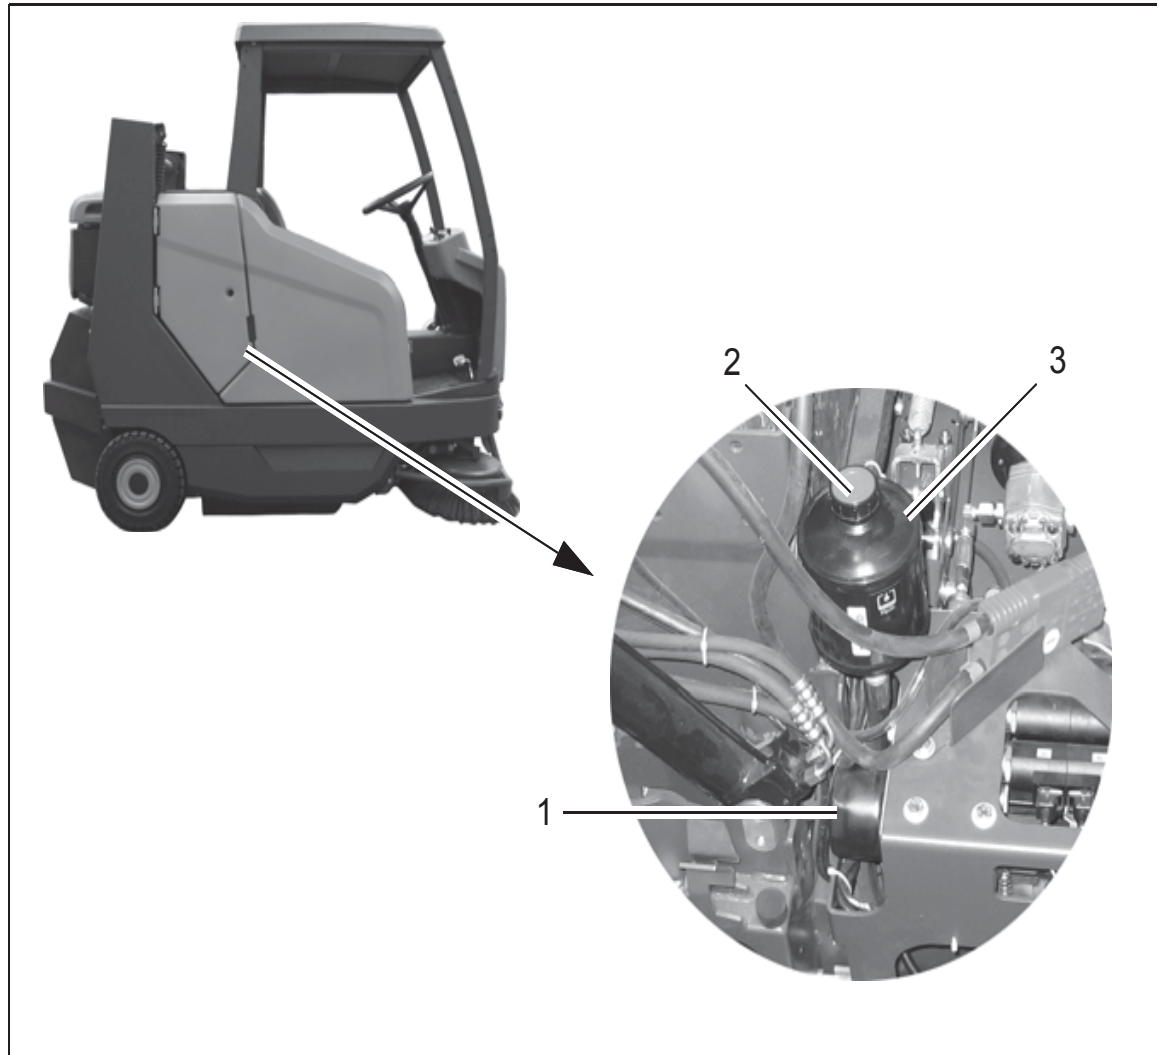

Fig.25
2. Remove the cap (Fig. 25/2).
3. Check the oil level on the fill level indicator in the cap (Fig. 25/2) of the hydraulic oil tank (Fig. 25/3).
2. Unscrew the hydraulic oil filter (Fig. 25/1).